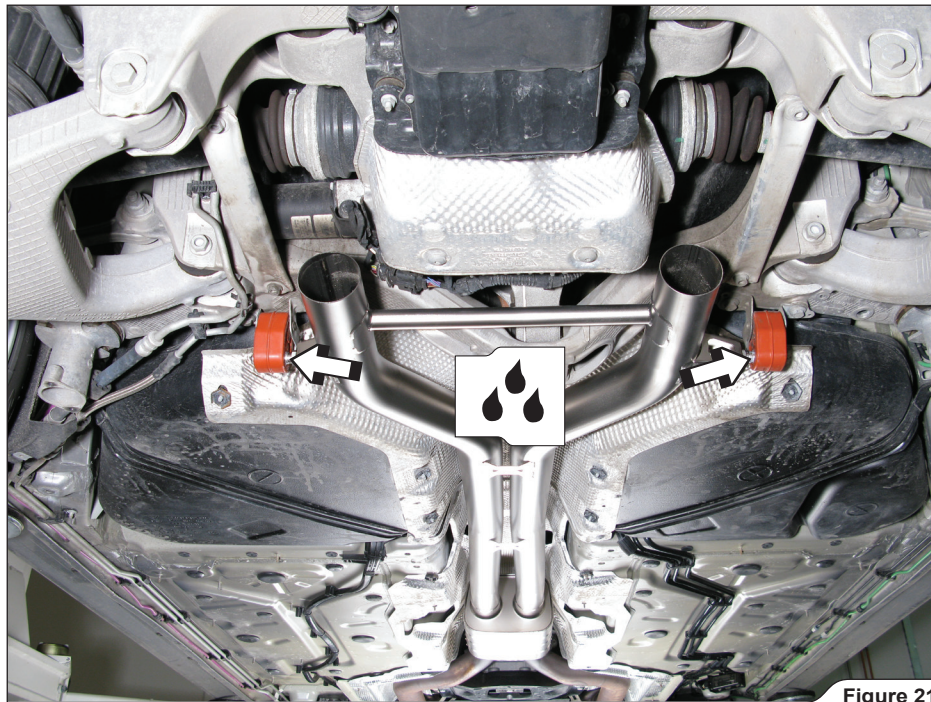

Figure 21
8. **For all vehicle models:** attach the link pipes onto the original rubber brackets (**Figure 21**).